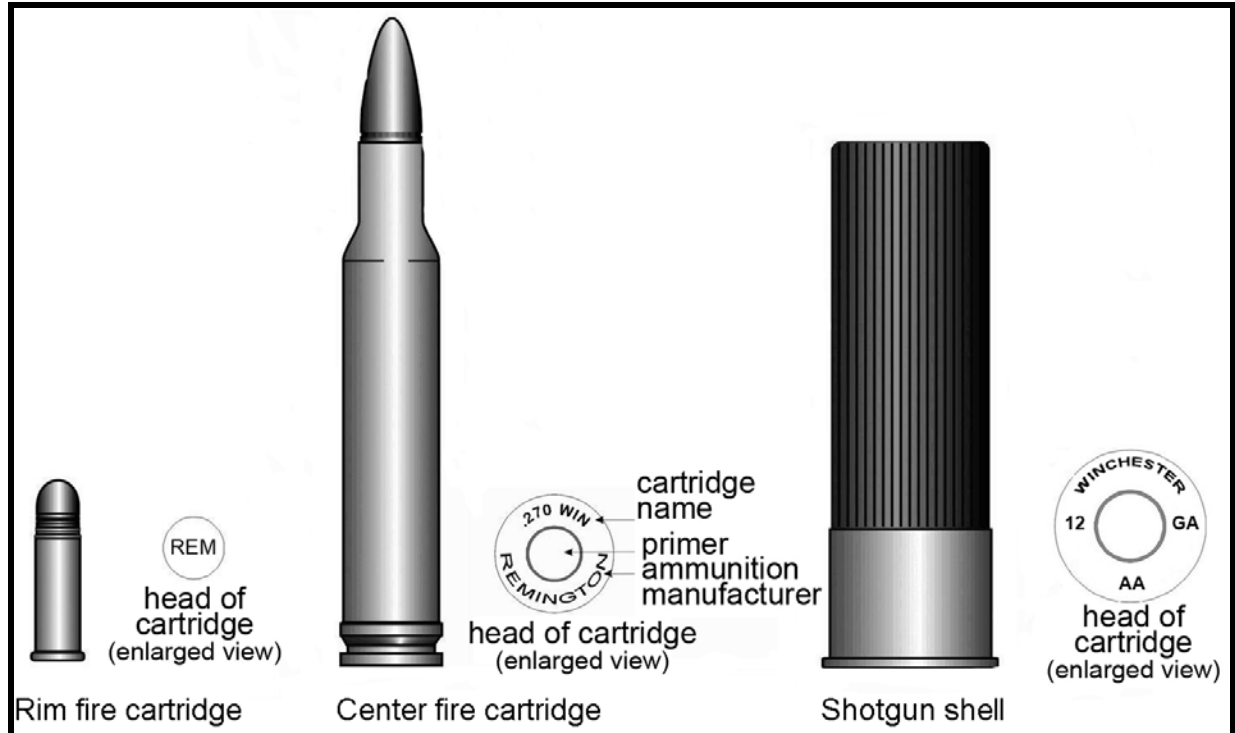

Figure 7. Examples of modern ammunition and cartridge head stamps
- c. In the mid-1800s, various cartridge types were developed that made breech loading practical. Eventually, metal-cased cartridges similar to modern ones were created (Figure 7).